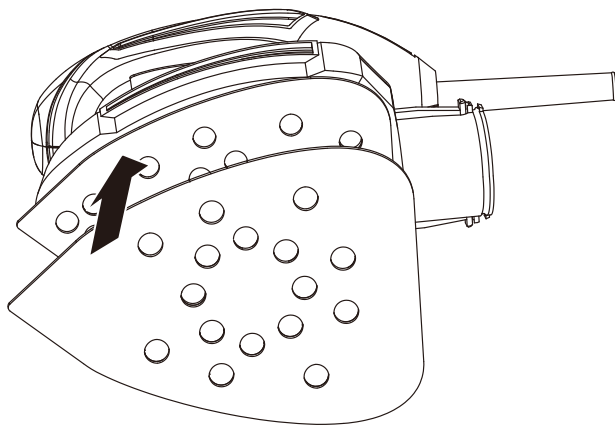

Figure 1
1. FITTING THE SANDING PAPER (SEE FIG. 1)